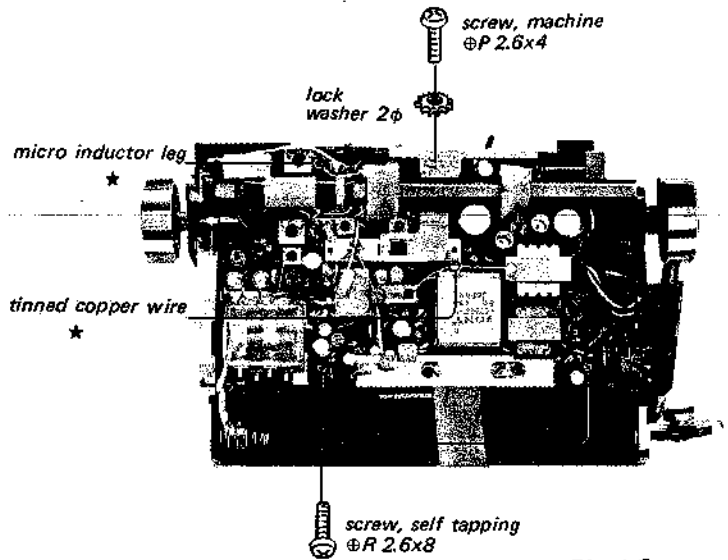

Fig. 1-7.
4. Remove the three screws and unsolder the two portions marked ★ in Fig. 1-7.